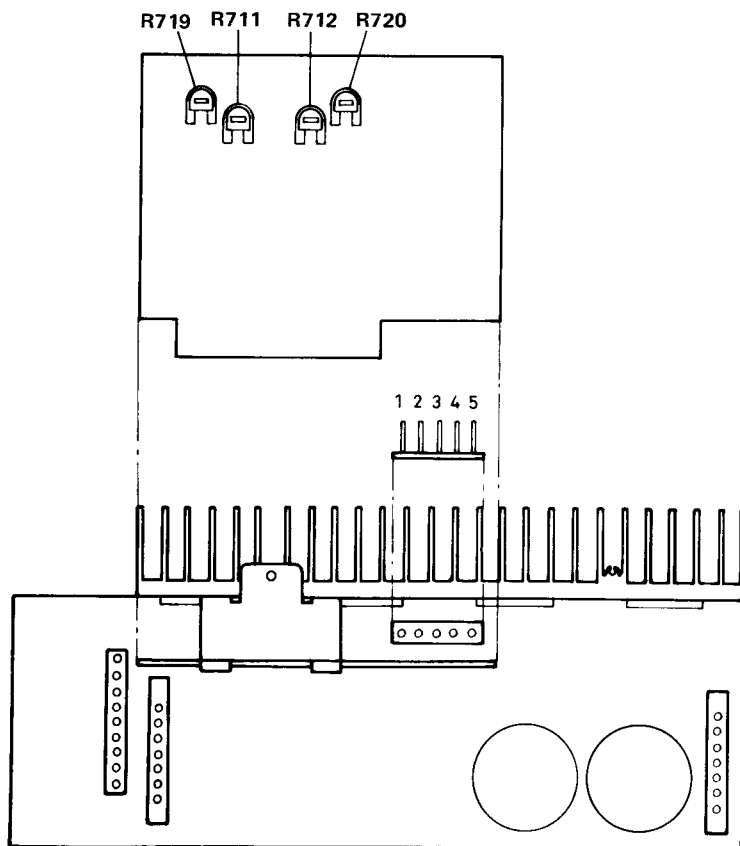

Fig. 13
3. Adjust R711 (R712). Meter should read 0 (± 0.05) volt. Refer to Fig. 13.
5. Adjust pot R719 (R720) for DC VTVM reading of 10mV. Refer to Fig. 13.